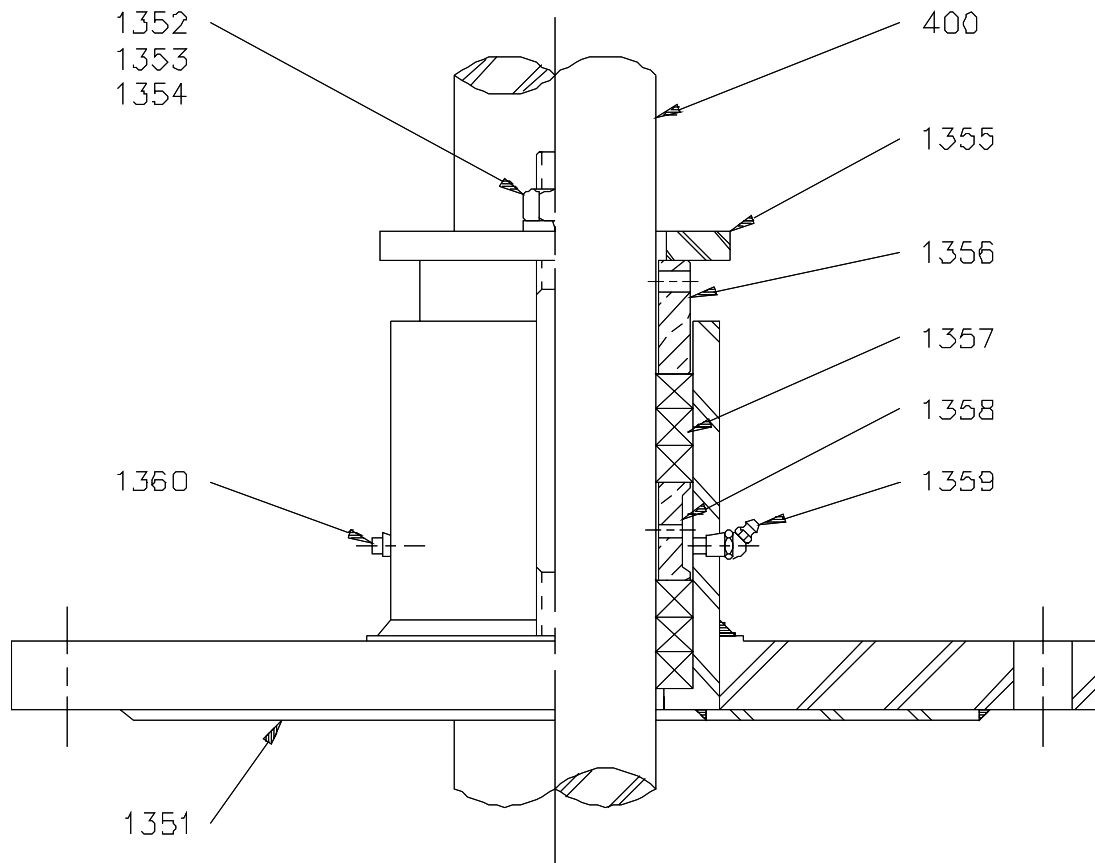
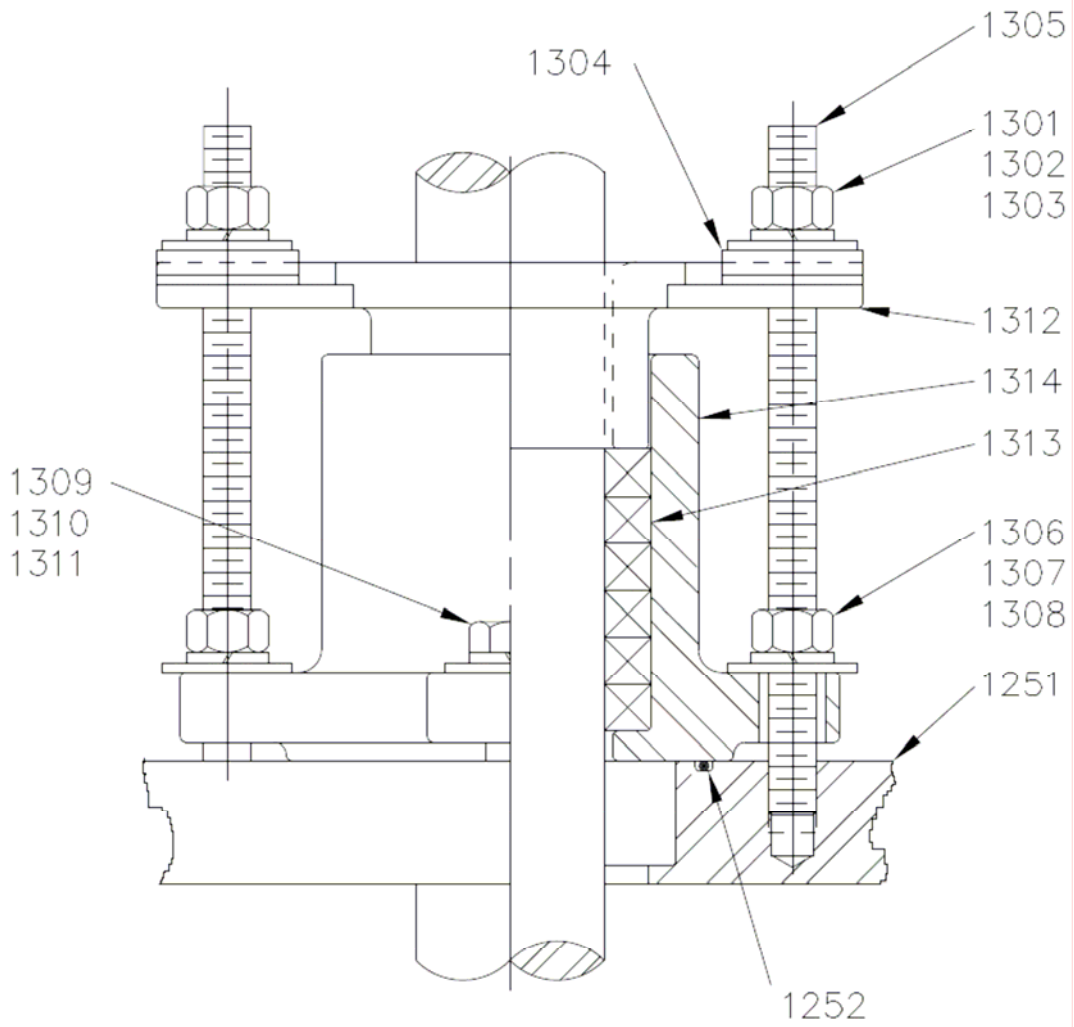
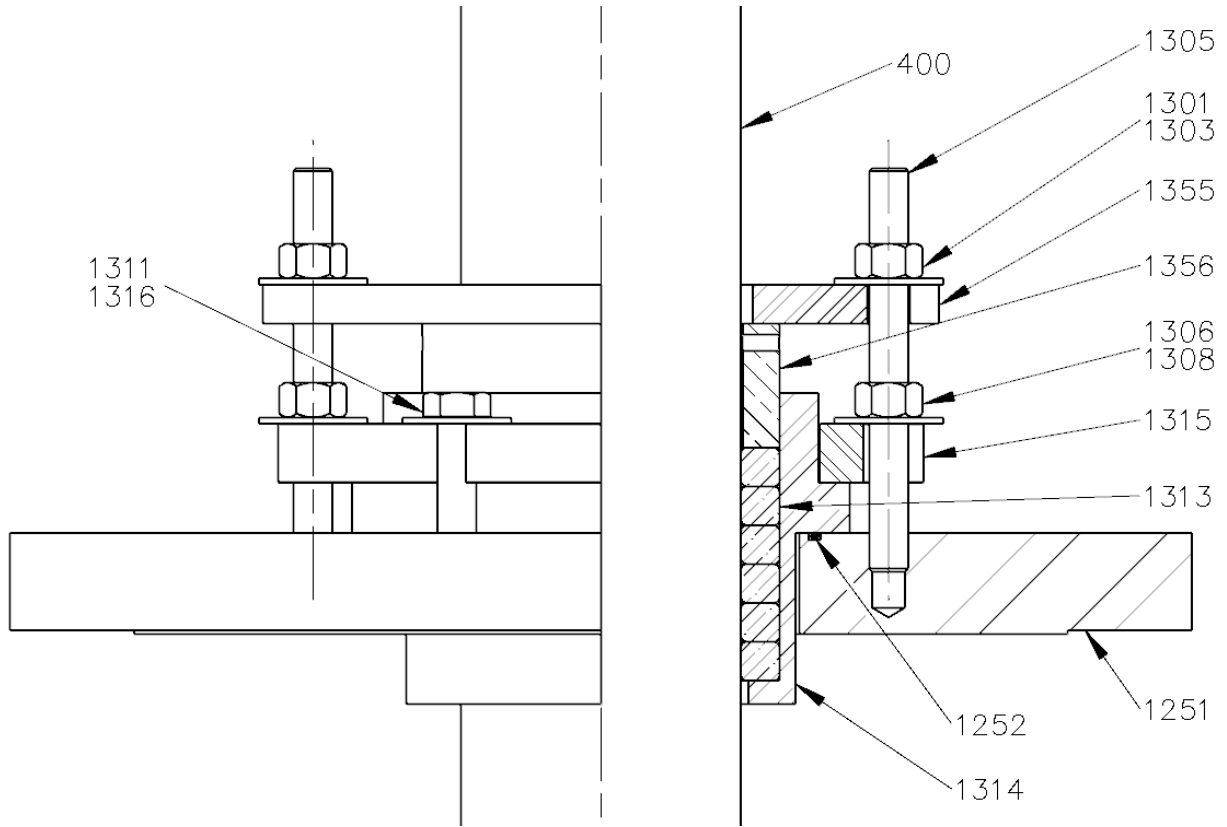

Figure 8. Auxiliary Stuffing Box
Figure 8A. Auxiliary Stuffing Box (cast housing)
Figure 8B. Auxiliary Stuffing Box (fabricated housing)
Applicable to: Model 20GTD (w/Auxiliary Seal) and Model 20 HTD (w/Auxiliary Seal). Examine Figure 8, Figure 8A and Figure 8B to determine which type of stuffing box was supplied with your unit.
10. Install split packing gland [1312] over threaded studs [1305] with gland clamps, flatwashers, lockwashers, and hex adjusting nuts [1304, 1303, 1302, 1301]. Refer to Figure 8A, page 25. The split packing gland must be square with the packing housing [1314]. Finger tighten the hex adjusting nuts [1301].
10. Install split gland **[1356]**. Refer to Figure 8B, page 27. The split packing gland must be square with the packing housing **[1314]**. Finger tighten the hex adjusting nuts **[1301]**.